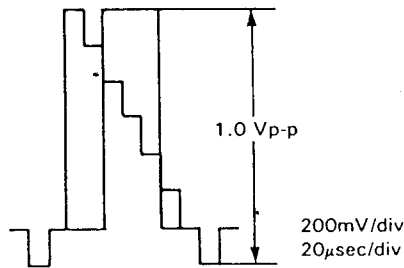

Figure 2-6.
2. Feed the color bar signal(stair-case waveform)to the video input terminal. Observing the voltage across the terminal resistor of the video output terminal on the oscilloscope screen, adjust R201 (EE level control) to obtain the value indicated in Fig. 2-6.
6. Repeat the above step 5 to finally get the playback video signal level at 1.0 ± 0.05 Vp-p, as shown in Fig. 2-6.